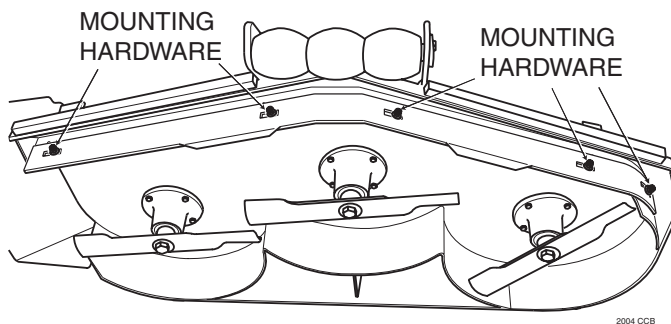

Figure 6-7. Custom-Cut Baffle
2. Remove the hardware securing the Custom-Cut Baffle to the cutter deck. (See Figure 6.7).